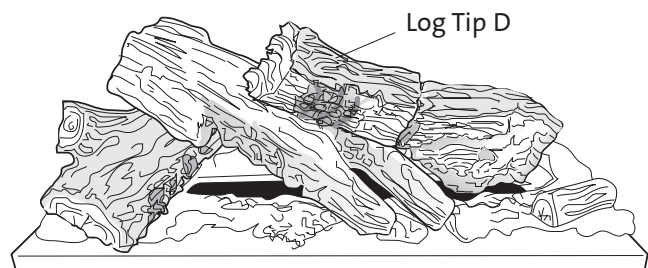
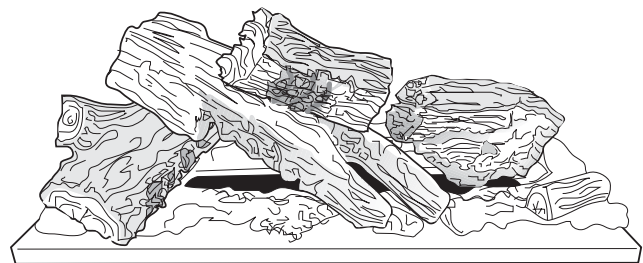

Figure 42. Correct Position: Engage Log D to Logs B and C.
Figure 42a. Incorrect Log Position.
5. Engage Log Tip D with the pin in Log B and position it against Log C. Fig. 42 shows the correct placement. There should not be a large gap between the two pieces as shown in Fig.42a.